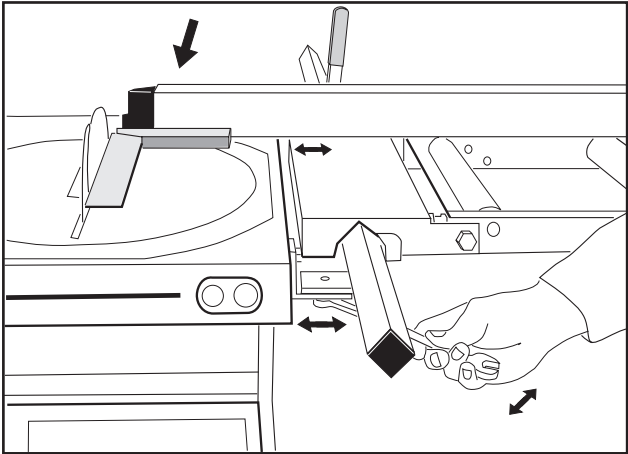

Fig. 5
- Rotate the turntable to 0°. Using a set square, adjust the guide rail so that the fence is at a 90° angle to the saw blade (Fig. 5).